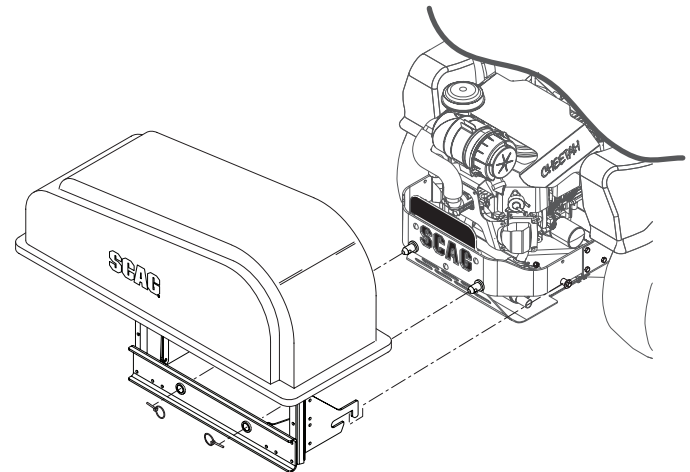

**Figure 2-13. STT / STTII Hopper Mounting Hardware Install**
10. Install the mounting pins and spacers on to the rear of the STT or STTII machine as shown. Secure using the hardware provided, use "Blue" loctite on the bolts. See Figure 2-13.